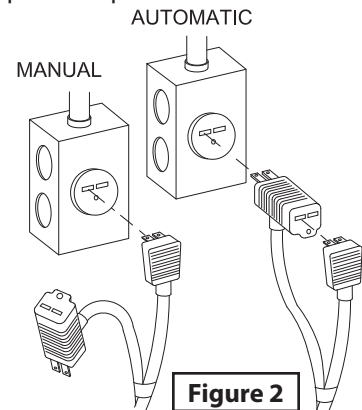

Figure 2
**Piggy-Back Plug:** Plug the level control plug into a 6-20R receptacle, then plug the pump into the piggy-back plug (See Figure 2). It is recommended that this circuit have a 30 AMP breaker. One cycle of operation should be observed, so that any potential problems can be corrected.